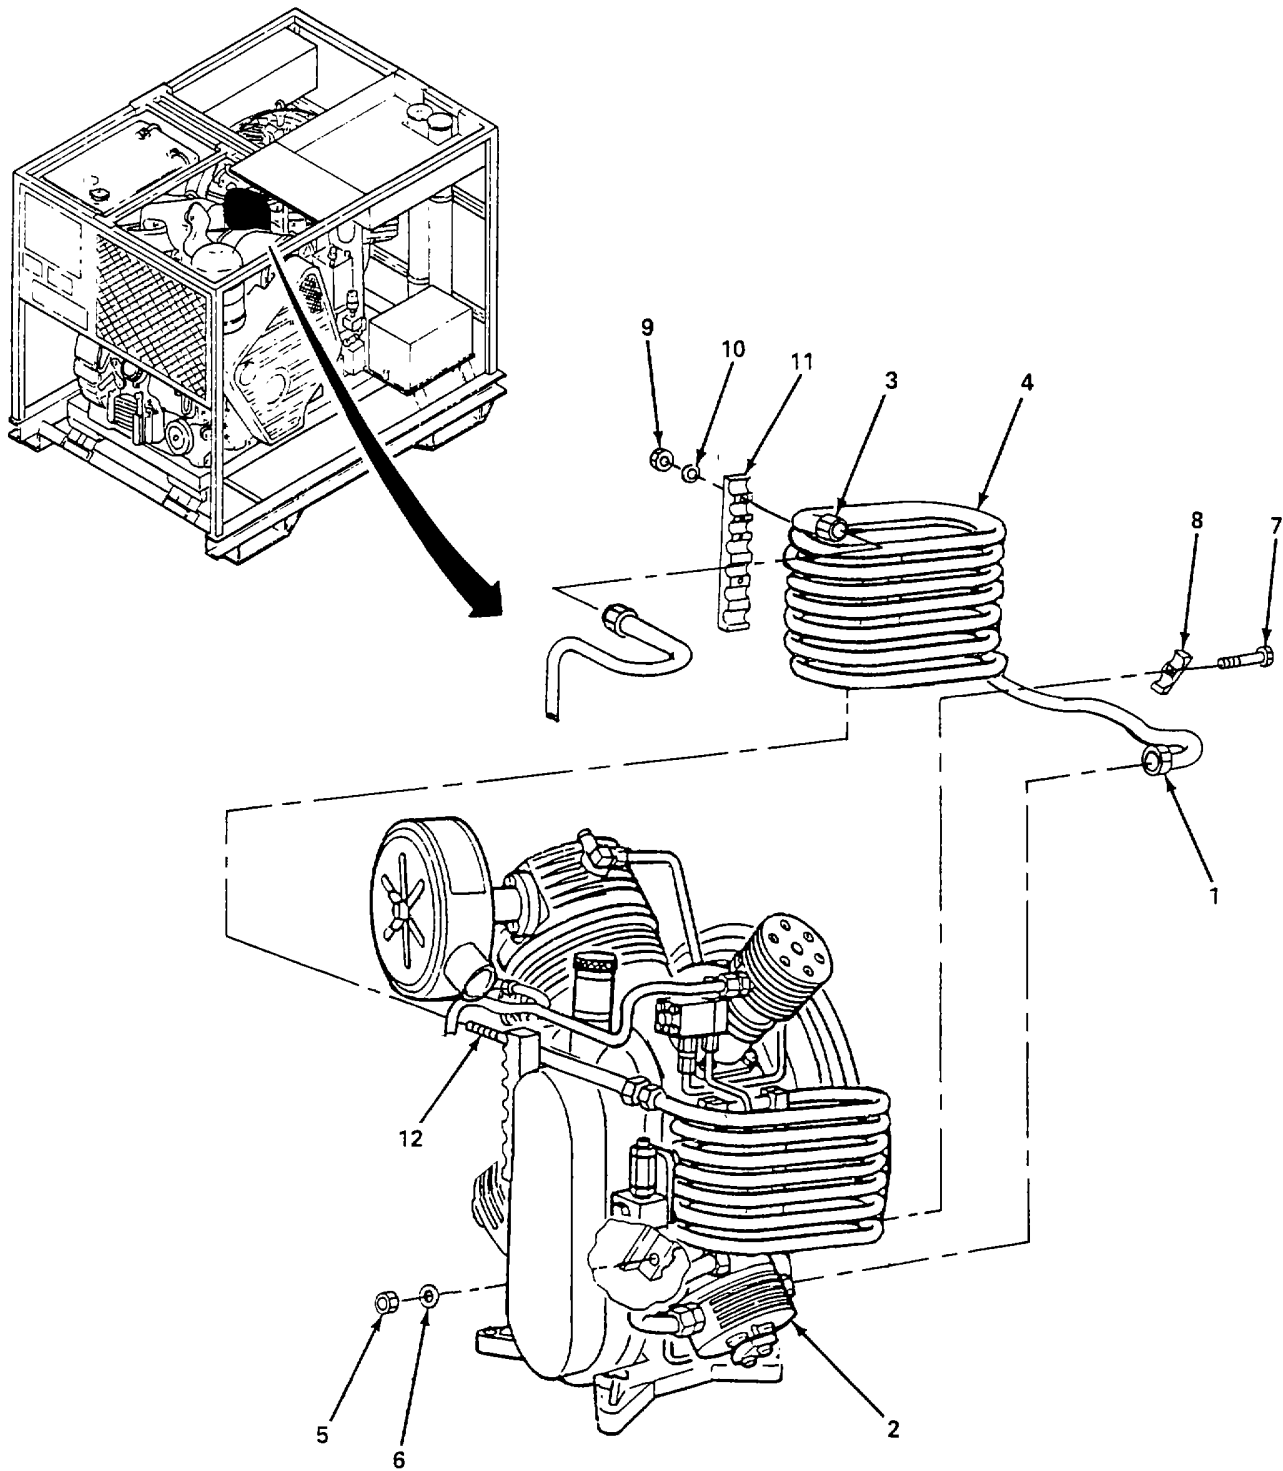

Figure 5-16. Compressor 2nd Stage Intercooler, Replace.
(2) 2nd stage intercooler. (figure 5-16)